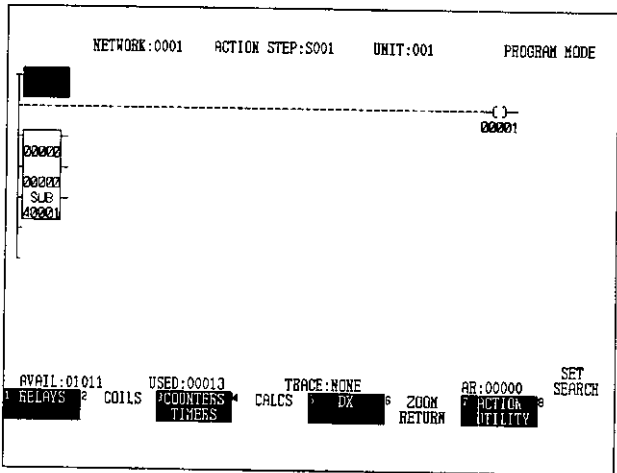

Figure 7.132
(2) The normal ladder circuit network screen can also be used.
(3) If the circuit has not been stored, the screen will show the network as "00000."
(4) To display the previous network, press the Page Up Key.
(5) It is possible to display the network in the action circuit only by using the procedure in step 2). The normal ladder circuit network can be displayed only if the Page Down operation with the network number is performed.
(6) To revert to the SFC flow screen from the screens shown in Figures 7.132 and 7.133, enter S000 in the AR at the main screen and press the Erase/Get Key. To return to the expanded-screen, enter the step number of the expanded-screen in the AR and press the Erase Get Key. You can also revert with the zoom function by selecting Zoom Return.